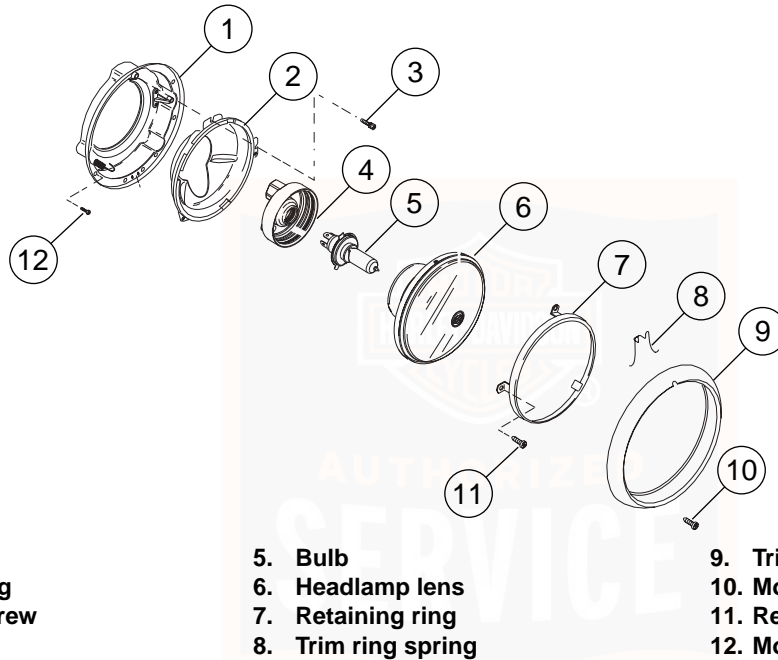

Figure 58. Replace Headlamp: Single Headlight
2. See Figure 58. Remove mounting screw at bottom of trim ring. Remove trim ring.
1. See Figure 58. Align the tab on the bulb with the notch in the headlamp housing.